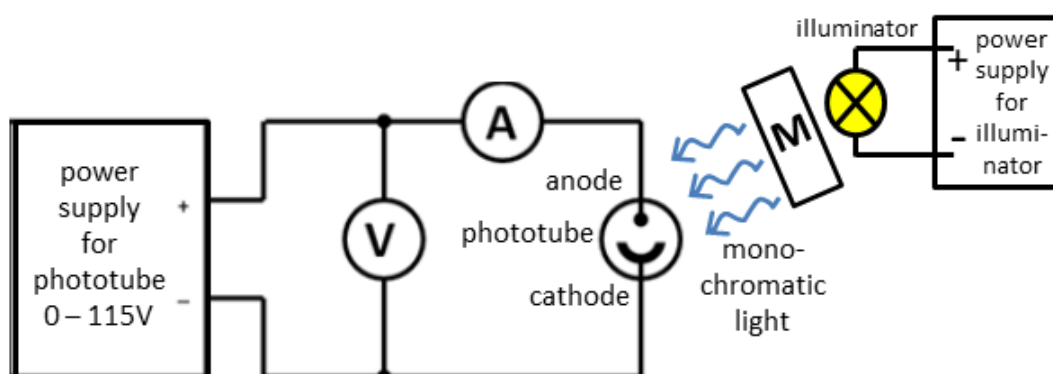

Fig. 1. The scheme of the measurement system (M- monochromator).
1. Assemble the measuring system according to the scheme shown in fig. 1 and 2. For this purpose **+** terminal (red) of the phototube power supply (7) should be connected through the ammeter to the anode (red terminal) of the phototube (1), and **-** terminal (blue) of the phototube power supply should be connected to the cathode of the phototube (black terminal). The voltmeter should be connected in parallel to the output of the phototube power supply (**-** terminal of the power supply connect to the **COM** terminal of the voltmeter).
4. Switch on the phototube power supply (7).
5. Using the knob (8) set the maximum voltage (about **115V**) on the phototube power supply (7).
- Switch on the illuminator power supply (5). Set the switch (6) to the upper position (higher intensity of light illuminating the cathode).
- Measure the spectral dependence $i(\lambda)$ of the photocurrent flowing through the phototube in the range from 370nm to 700nm every 5nm. To do this, for each wavelength λ selected by the knob (3), note the value of the photocurrent i (reading it from the ammeter (10)).
- After the measurements, use the knob (8) to turn down the voltage on the phototube power supply (7) to zero. Then switch off both the power supplies (7 and 5).